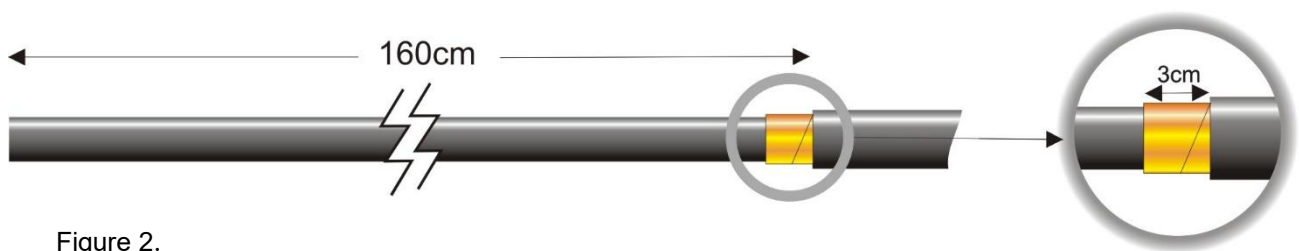

Figure 2.
1. First, remove the black outer sheath for a length of 160 cm by cutting radially round the HVSC Plus cable with a sharp knife. The lengthwise cut is also performed with a knife, but take great care not to score the black insulation under the copper tape as well as the 1st 3 cm of copper tape against the outer sheath. Cut and remove the material lining over the copper tape. (Fig 2)
2. With a knife, cut and remove the fabric tape material over the copper tape up to the outer sheath. Measure and mark with a pen the outer copper screen tape at 3 cm along from the end of the outer sheath. (Fig 2) With a knife or scissors, carefully cut and remove the copper tape, again without damaging the black insulation below. If using a knife, carefully score the tape without cutting through it and use this score line to tear the tape along the line.